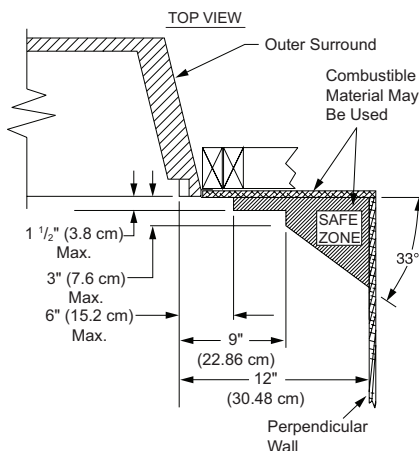

Figure 6 - Side Clearances - Top View (Cross Section)
- where curtains, furniture, clothing or other flammable objects are less than 36" from the front and 42" from the top top of the fireplace. For side clearances see Figure 6, page 7
- Perpendicular Wall See Figure 6